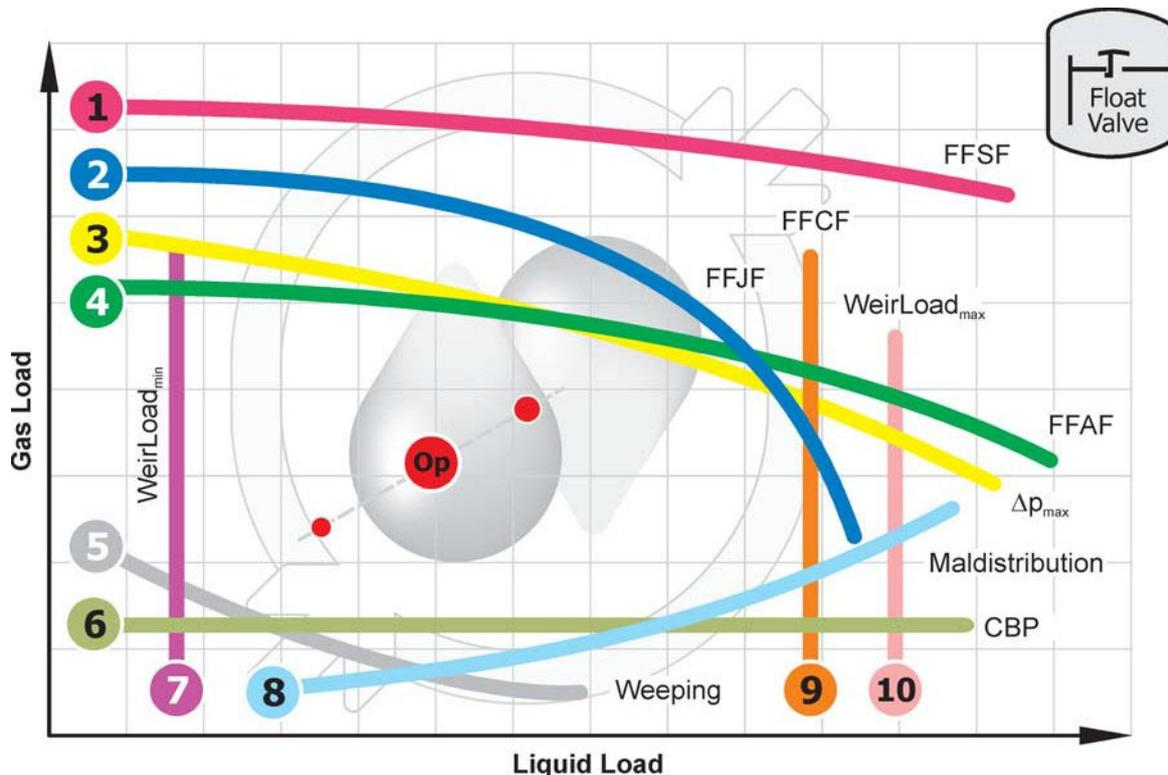

Fig. 10: Qualitative Operation Diagram for Float Valve Trays
The *Operating Area* of a float valve tray is defined by different limits. In Fig. 10, a qualitative operation diagram is shown. Please note, that the position and shape of all curves depend on the physical data, the tray and cap geometry and the gas/liquid load. Each curve can be limiting!
The *Operation Point* (Op in Fig. 10) of the design case (as well as the minimum and maximum load) has to stay inside all limiting curves. The design load case should additionally be above the OBP (not only the CBP): The movement of valves should not take place in the design load case as the abrasion is too high!
– calculating all relevant parameters. For a float valve tray design there are 10 main parameters shown as curves in Fig. 10. These parameters are discussed in this article. There are some additional effects you will have to look at: entrainment, head loss at downcomer exit (clearance), flow regime, downcomer residence time, efficiency, sealing, construction issues, statics, ...
In the following sections, all 10 main parameter curves of Fig. 10 are described. Each suggested action for preventing a certain effect may result in fertilizing another. The main task for designing trays is to balance these different and contradicting effects.